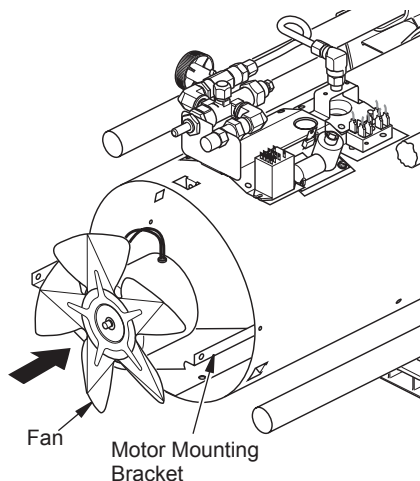

Figure 8 - Fan and Motor Reversed for Cleaning
8. Turn motor and fan around. Place motor and fan into shell backwards. *Note:* Motor will go into shell first (see Figure 8).
9. Line up rear mounting holes in shell with first hole on each side of motor mount (see Figure 8). *Note:* When holes are lined up, fan should be outside of shell.